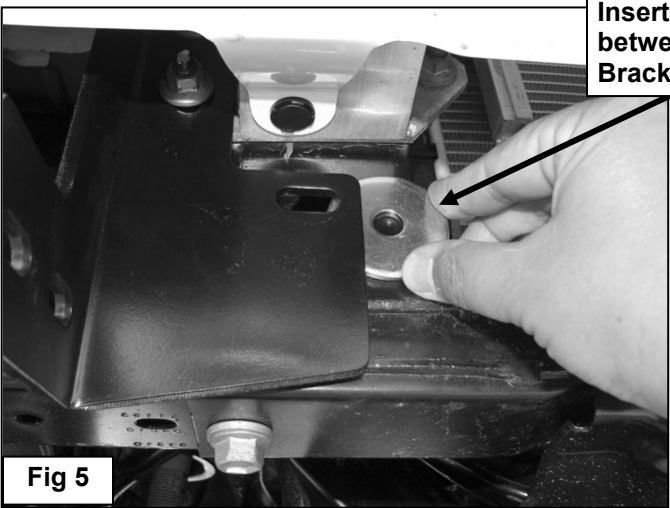

Fig 5
4. Slide (1) Large Spacer Washer between the Mounting Bracket and the frame cross member, **(Figures 5 & 6)**. Insert (1) 10mm x 120mm Hex Bolt with (1) 10mm x 34mm OD Large Flat Washer and (1) Large Spacer Washer into and through the hole in the back of the cross member. Make sure the Spacer Washer is against the cross member covering the large hole, **(Figures 7 & 9)**. Push the long bolt through the outer Spacer Washer and Frame Bracket. Secure the Bracket to the Bolt with (1) 10mm x 34mm Large Flat Washer and (1) 10mm Nylon Lock Nut, **(Figures 8 & 9)**. Leave hardware loose at this time. **NOTE:** Trim plastic splashguards attached to the bottom corners of the bumper as necessary to clear brackets.